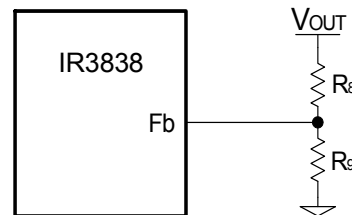

Fig. 16. Typical application of the IR3838 for programming the output voltage
When an external resistor divider is connected to the output as shown in figure 16. Equation (8) can be rewritten as: